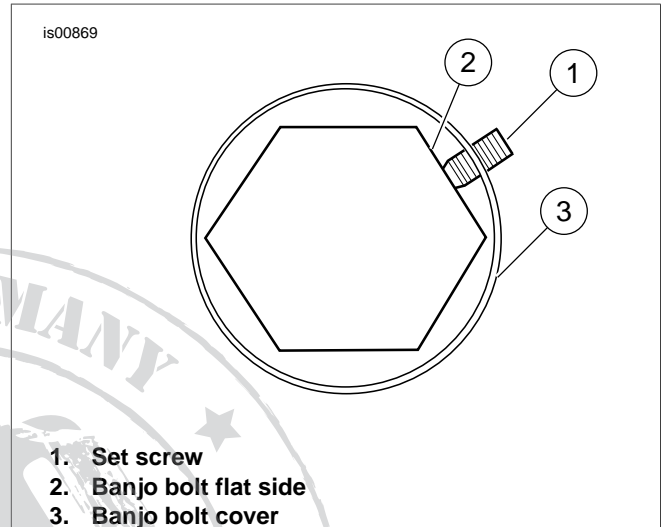

Figure 2. Set Screw Orientation
1. See Figure 2. Position banjo bolt cover (3) over banjo bolt making certain that set screw (1) contacts flat surface (2) of banjo bolt.